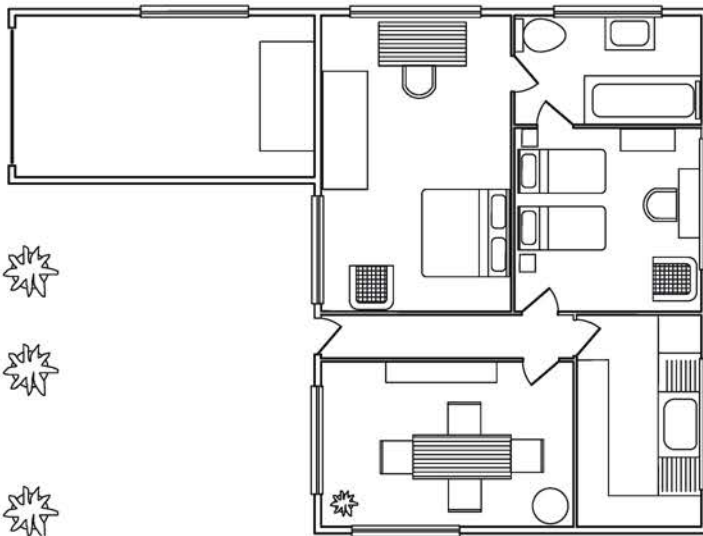

Fig. 13.8 Example – first method of inserting blocks
4. Insert all necessary blocks and add other detail as required to the plan outline drawing. The result is given in Fig. 13.8.
Take the drawing Fig. 13.8 (page 249) as an example. If all the unnecessary data is purged from the drawing after it has been constructed, the file will be reduced from 145 Kbytes to 67 Kbytes when the drawing is saved to disk.